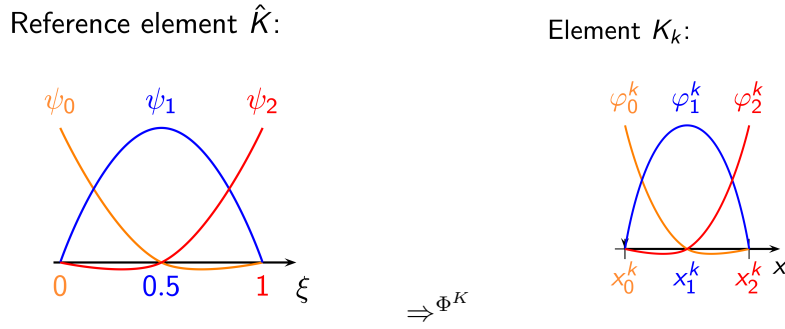

Figure 1: Shape functions on a reference element \hat{K} , and the corresponding basis functions on the physical element K_k .
- Define a reference element $\hat{K} = [0, 1]$, and define the shape functions $\Psi_i \in \mathbb{P}_2$ on \hat{K} . Choose those such that $\Psi_\alpha(\xi_\beta) = \delta_{\alpha,\beta}$ for $\xi_\beta \in \{0, 1/2, 1\}$, see Figure 1. Define a mapping $\Phi_K : \hat{K} \rightarrow K_k$, and a local to global mapping $i = \theta(k, \alpha)$.